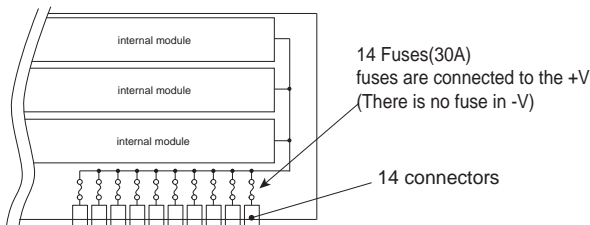

Fig.2.4 Output part block diagram
- Fuses are built-in, and connected to each connectors as shown in Fig.2.4.